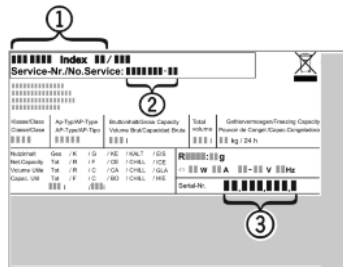

Fig. 12
- ▶ Read the appliance designation *Fig. 12 (1)*, service No. *Fig. 12 (2)* and serial No. *Fig. 12 (3)* off the model plate located inside the appliance on the left-hand side.
- ▶ Notify the customer service, specifying the fault, appliance designation *Fig. 12 (1)*, service No. *Fig. 12 (2)* and serial No. *Fig. 12 (3)*.